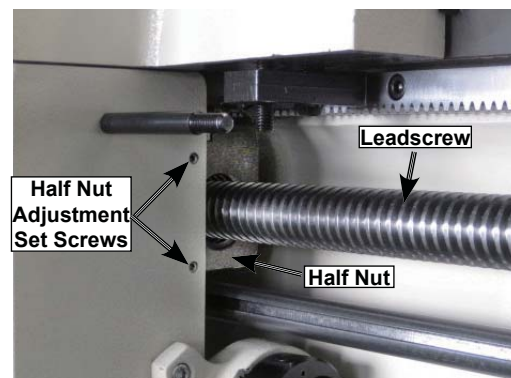

Figure 93. Half nut gib adjustment.
3. Turn the two half-nut adjustment set screws, shown in Figure 93, clockwise about an 1/8th of a turn.